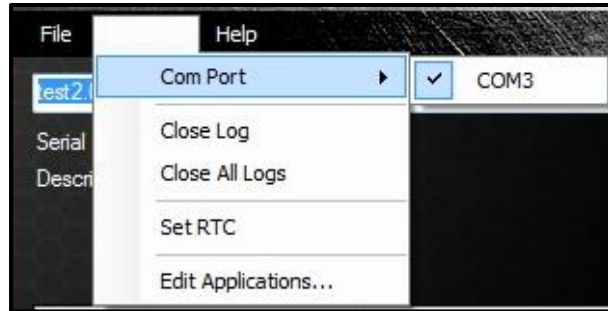

Figure 6.2-5: Com Port Selection from Options Menu
6. Select "Com Port" from the Options Menu (Figure 6.2-5).